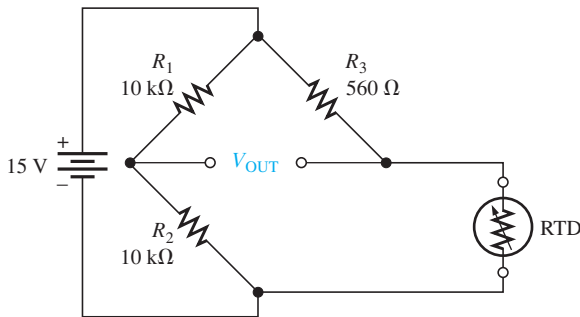

FIGURE 15-47
- At what resistance value of the RTD will the bridge circuit in Figure 15-47 be balanced if the wires running to the RTD each have a resistance of $10\ \Omega$?